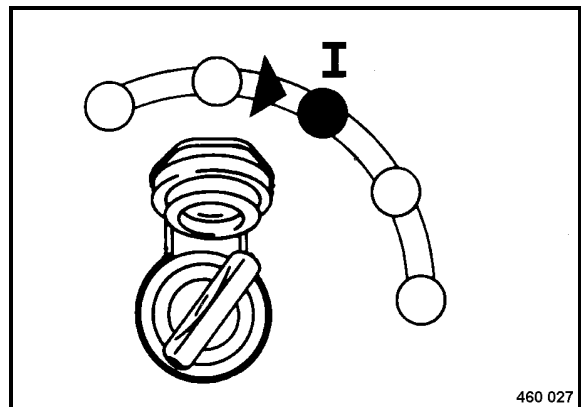

Fig. 56
- Turn the ignition key (Fig. 56) to position "I".